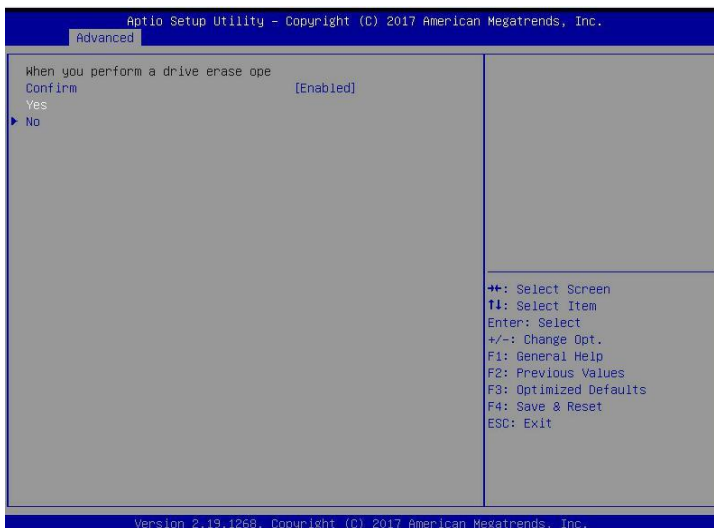

Figure 6-82
f) Enter the interface shown in Figure 6-82, select Confirm to enable it, select Yes, and press Enter.
✧ Figure 6-82 Confirm erasure